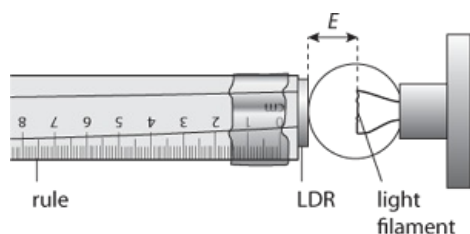

Figure 8.5: Close-up of Figure 8.4 at the lamp.
- 5 There is a zero error E due to the distance between the lamp filament and the LDR sensing surface when the LDR touches the glass of the lamp, as shown in Figure 8.5.